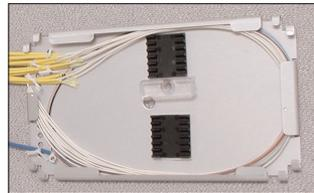

Fig. 31
- Tie off the simplex fibers and the buffer tube in the splice tray. The grommet tape included in the installation hardware can be used to cushion the buffer tube (Fig. 31).